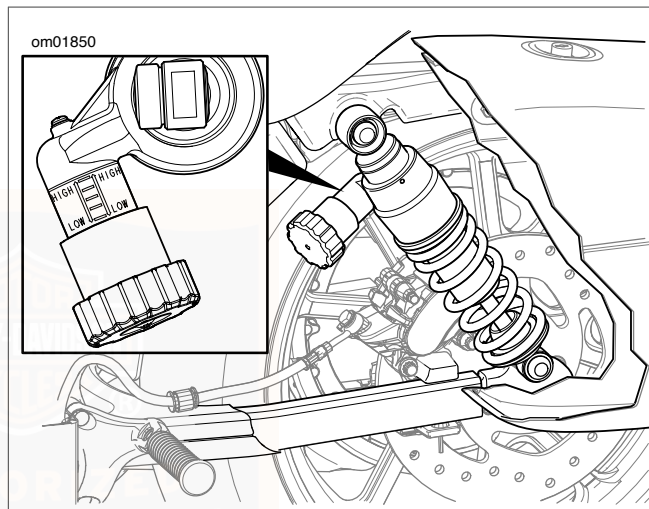

Figure 30. Preload Adjustment Knob: XL1200T
1. See Figure 30. Locate the preload adjustment knob behind the left saddlebag.